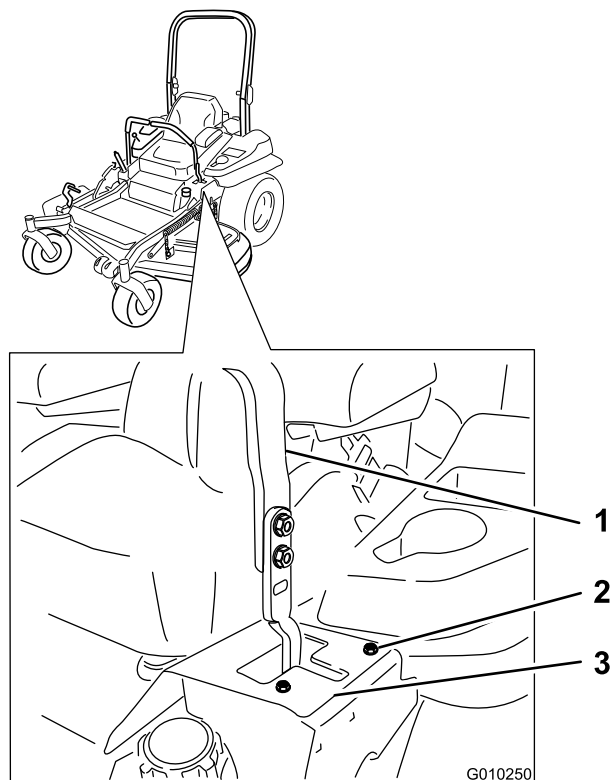

Figure 56
6. If it tracks to the right, loosen the bolts and adjust the left stop plate rearward on the left T-slot until the machine tracks straight (Figure 56).
7. If it tracks to the left, loosen the bolts and adjust the right stop plate rearward on the right T-slot until the machine tracks straight (Figure 56).
8. Tighten the stop plate (Figure 56).